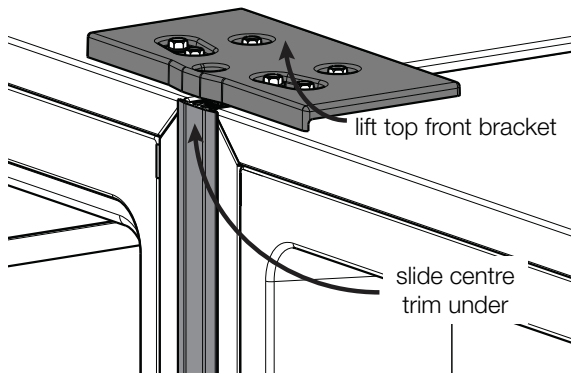

Figure 13
- Lift the top-front bracket (screws should be loose enough) and slide the centre trim underneath. (Fig. 13)